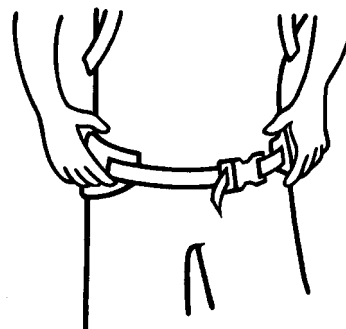

FIG. 5
7. Fasten the waist belt snugly and make sure the weight is resting comfortably on your hips (Figure 5).